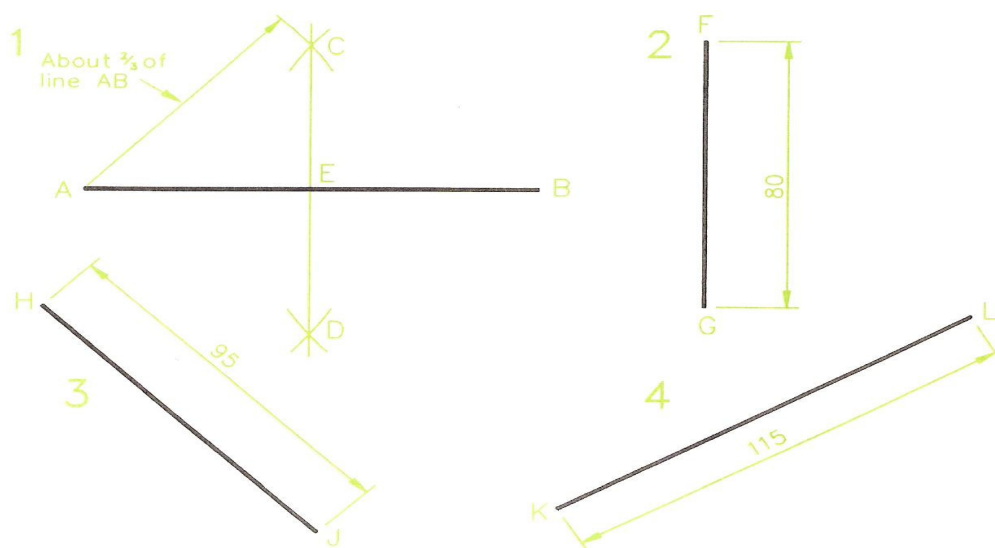

Figure 2 - Bisecting Lines
A line is bisected when it is divided exactly into two equal parts. To bisect a line follow the example shown in Drawing 1 of Figure 2.
1. Get into the habit of labelling your geometry drawings with letters in a similar manner to that shown in Figure 2. This habit will save you getting into difficulty when following what has already been completed when the more advanced work is undertaken at a later stage.